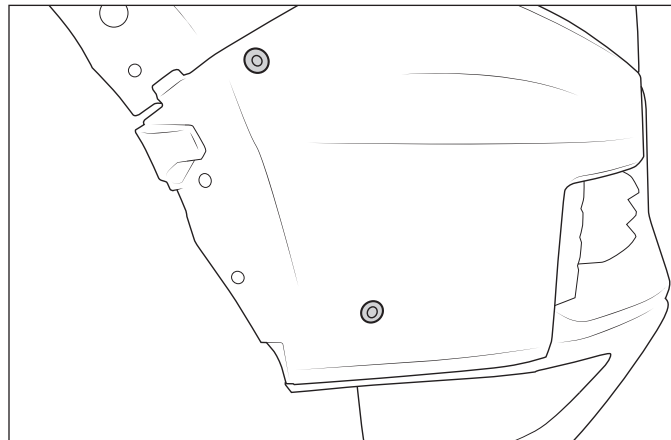

Figure 7
11. Install four riv nuts (two per side) in fascia locations shown (fig. 7).